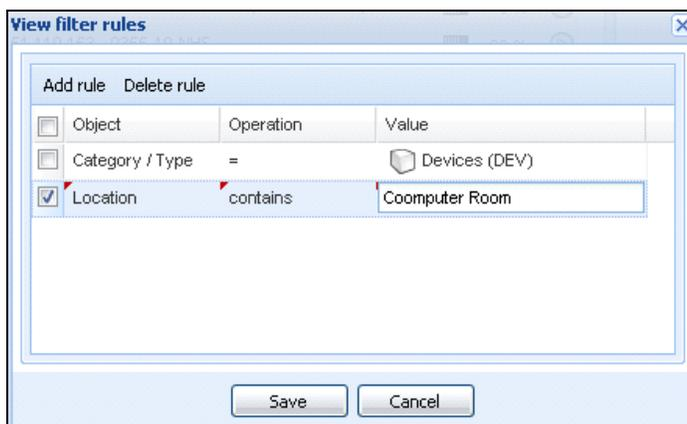

Figure 54. View Filter Rules Dialog Box
3. Click **Edit a Filter View**. The View Filter Rules dialog box displays (see Figure 54).
NOTE With the setup shown in Figure 54, this filtered view allows you to view the devices whose location field contains the value “Computer Room.”